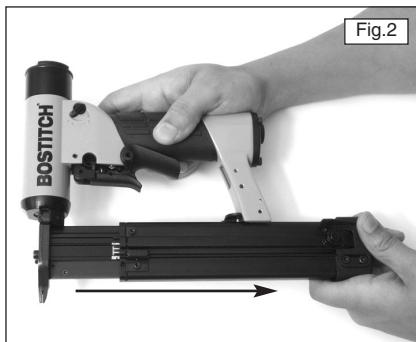

Fig.2
2. Pull sliding portion of magazine back as shown in Fig.2